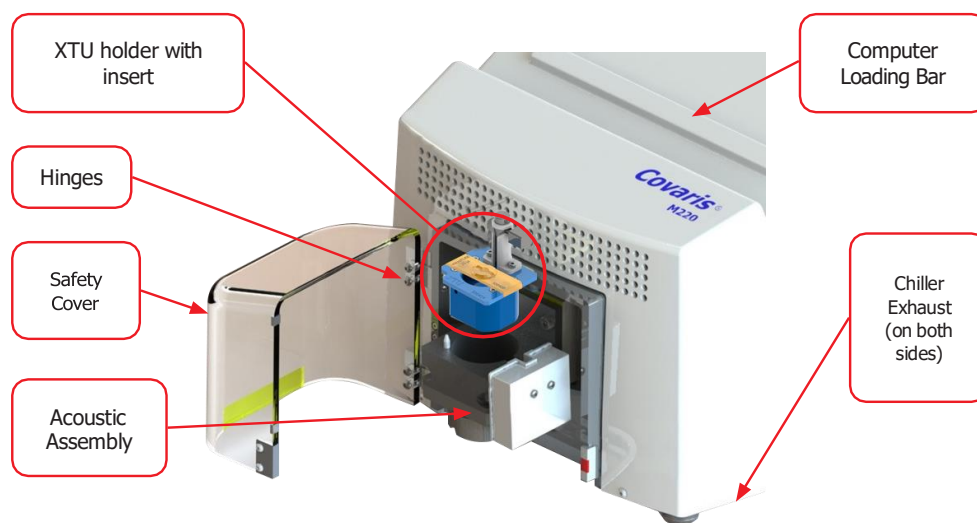

Figure 2.1 A front view of the M220 instrument.
After the instrument is unpacked, please locate the M220 on a flat surface near two power outlets. Use both sides of the base (*Figure 2.1*) to lift the instrument. Do not use the acoustic assembly to lift the instrument. If necessary, adjust the four adjustable feet to ensure the instrument is stable and level. Do not remove the adjustable feet. They are needed to ensure proper air flow from the system chiller.
5. Place the Safety Cover on the hinges (please refer to *Figure 2.1*);